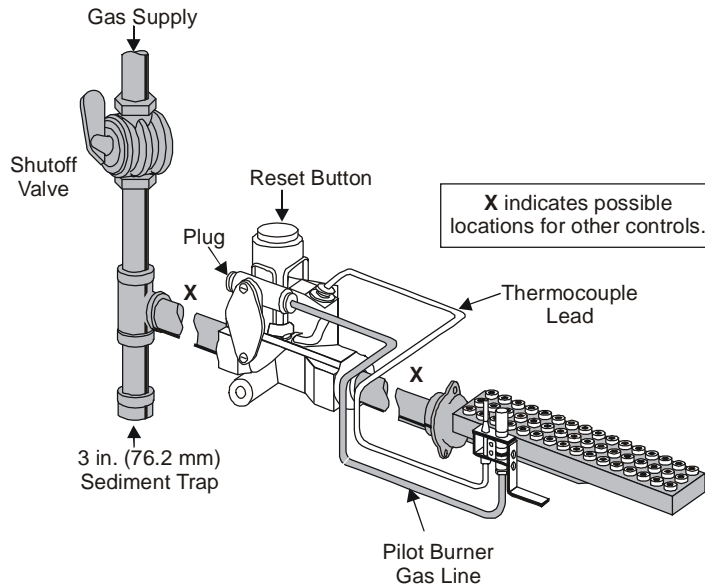
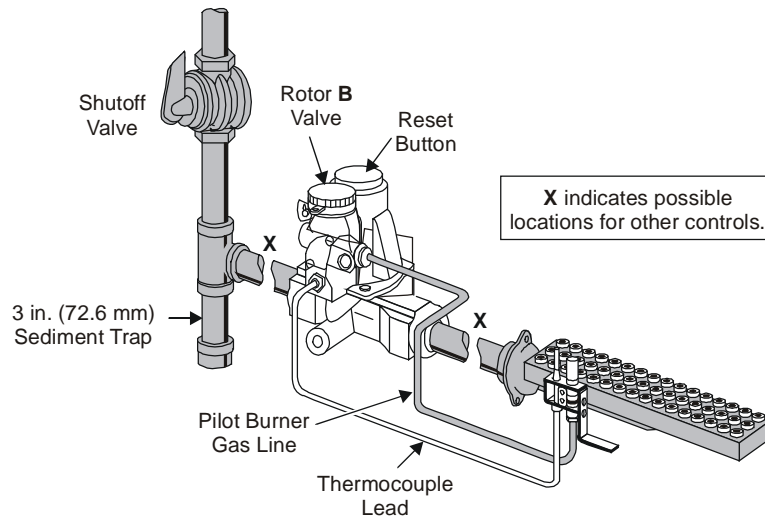
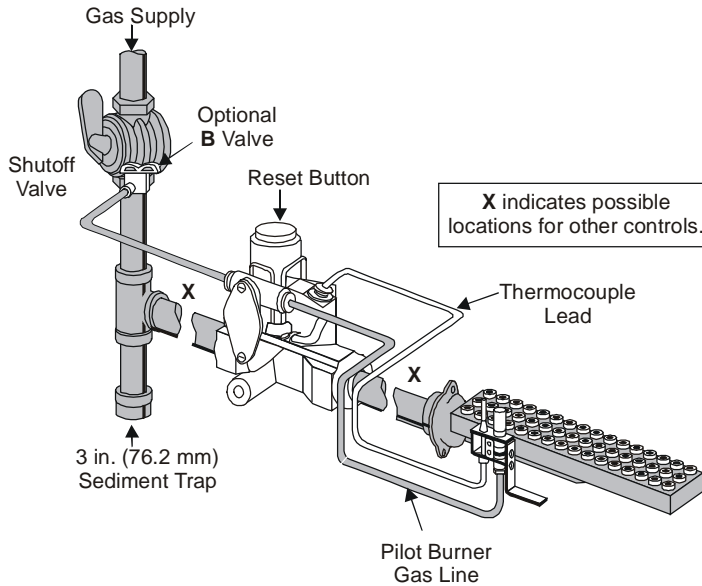

Figure 3: Typical Installation of an H15 Valve with Internal Pilot Gas Flow (Models H15_A and H15_B)
Figure 4: Typical Installation of an H15 Valve with Internal Pilot Gas Flow and Rotor "B" Valve (Models H15_H)
Figure 5: Typical Installation of an H15 Valve with External Pilot Gas Flow (Models H15_Q and H15_R)
3. Mount the valve to the pipework. The H15 valve may be mounted in any convenient position. Use an approved pipe joint sealing compound on the male threads before assembly. Remove excess compound after mounting the valve to the pipework. A sediment trap should also be installed in accordance with the National Fuel Gas Code (ANSI Z223.1). (See Figure 3, Figure 4 and Figure 5).
On internal pilot gas valve models, plumb the pilot burner fitting to either of the pilot gas ports on the valve. Plug the unused pilot gas port on the gas valve. **See Figure 3 and Figure 4.**
On external pilot gas valves models, plumb the pilot gas line from an external gas source to either pilot gas port on the gas valve. Plumb the other pilot gas port to the pilot burner fitting. **See Figure 5.**